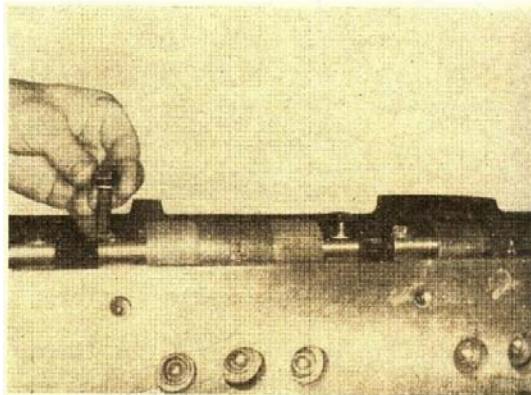

Fig. 14-24, Install the slotted capscrew
2. Install the special drilled capscrews. Fig. 14-24.